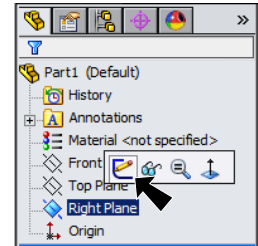
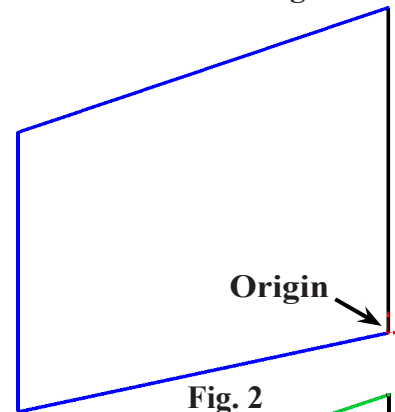

Fig. 1
Fig. 2
Step 2. Click **Right Plane**  in the Feature Manager and click **Sketch**  from the Context toolbar, **Fig. 1**.
Step 3. Click **Line**  (L) on the Sketch toolbar.
Step 4. Starting at the Origin  draw lines in **Fig. 2**. Use the inferencing line, the dotted line that appears when you draw the lines to **keep side lines vertical**.